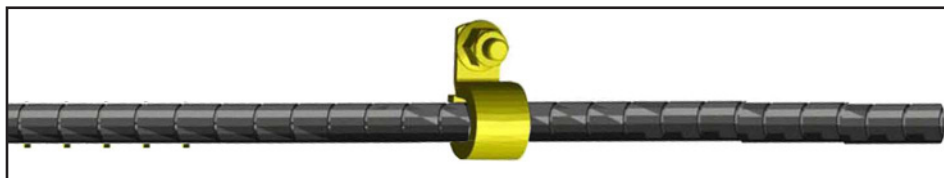

Figure 2 - P-clamps Air Line Assembly
- 1.3. Remove the air line assembly hose P-clamp. Retain the hardware. See Figure 2.